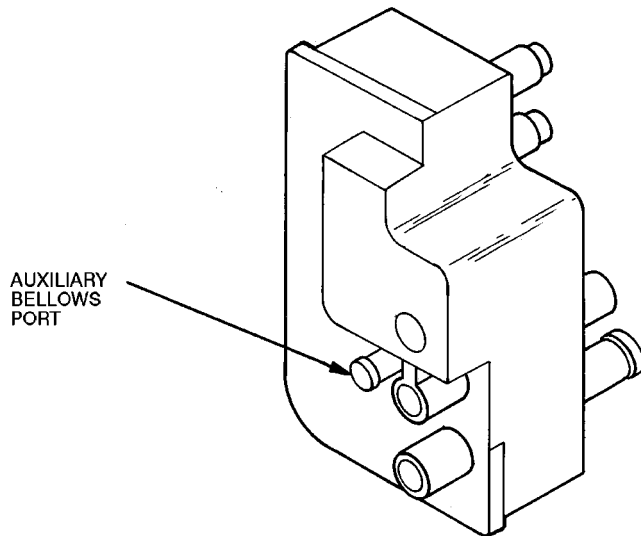

Fig. 4 — 37HS Filter
3. Remove the cap from the auxiliary bellows port of the filter (see Fig. 4).
4. Push the 11/16-in. long piece of 1/4-in. OD FR (fire retardant) tubing (provided in package) onto the bellows port (Fig. 4).